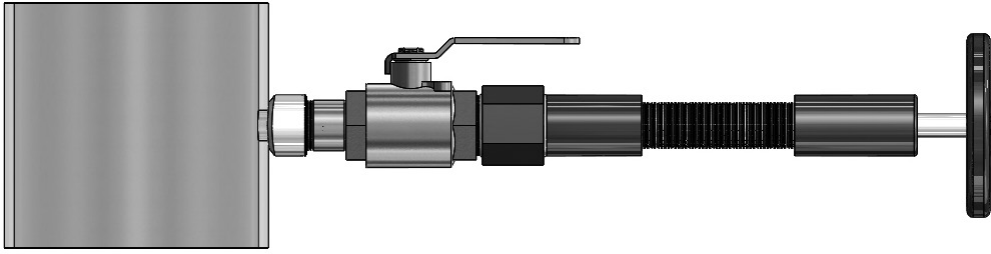

Figure 5. Hot Tap Drilling Machines
- With the access valve in the full open position, install an appropriate Hot Tap Drilling Machine (Figure 5) and drill a hole in the pipe (hole sizes per chart below). Follow the instructions given by the Hot Tap Drilling Machine.